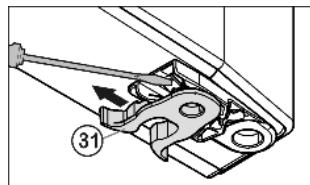

Fig. 7
- Transfer the spring clamp *Fig. 7 (31)*: Depress the latch nose and pull the spring clamp off over it.